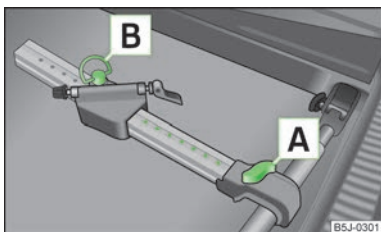

Fig. 57
- Remove the screw » Fig. 57 a little and push the frame side rail (alu-part) towards the cross member until the socket latches.
- Undo the screw » Fig. 57 on page 61 and push the bicycle carrier to the left together with the fastened bicycle to prevent a collision between the steering wheel and the side window of the luggage compartment.